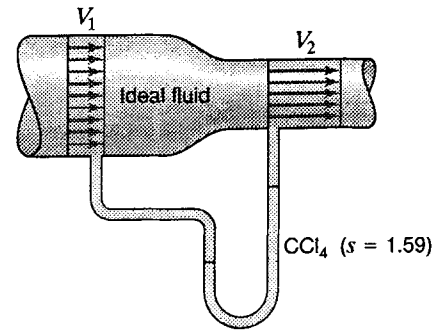

Figure P5.40
- 5.41 Refer to Fig. P5.40. Assume an ideal fluid with $\rho = 900$ kg/m³. The pressure at section 1 is 100 kN/m²; $V_1 = 10$ m/s, $V_2 = 20$ m/s. (a) Determine the reading on the manometer. (b) If the downstream piezometer were replaced with a pitot tube, what would be the manometer reading? Comment on the practicality of these arrangements?